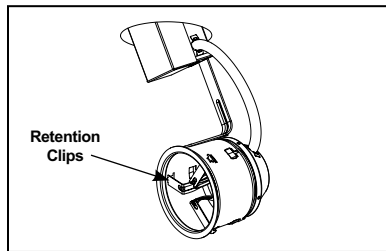

Figure 3
Step 4. Press housing through ceiling opening until flush to ceiling (Fig. 3). Push retention clips outward until they click into position. Note: To remove housing from ceiling, push tab on clip upward to disengage.